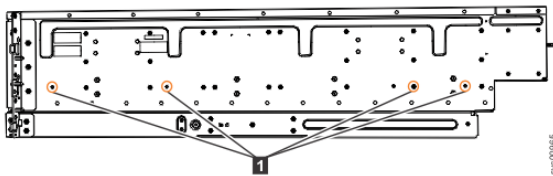

Figure 48. Screw locations to attach the inner rail to the enclosure
4. Use four M4 screws to attach the inner rail to the side of the enclosure. Figure 48 on page 83 shows the screw locations.